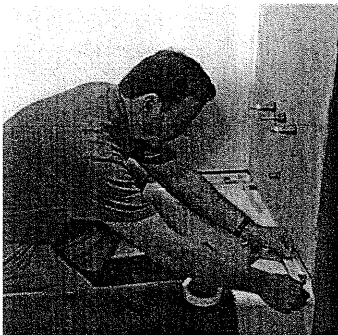

Figure 1
2. **Tape shims** along the top ledge of the tub. See figure 1. Place a shim directly below each plumbing pipe for measuring cutouts later.